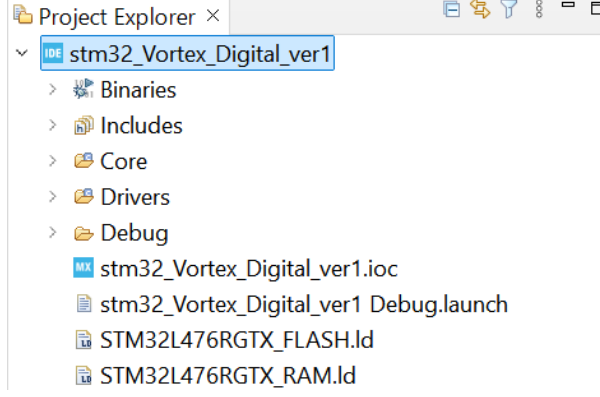

Figure 2: Screenshot of STM32CubeIDE after the user opens the project.
- **src/STM32:** We recommend that the user use **STM32CubeIDE** as the development environment. Move the extracted `src/STM32` folder into the workspace directory of STM32CubeIDE, then open the project using the "Import Projects from File System" function. Once the project is opened, the **Solution Explorer** in STM32CubeIDE should appear as shown in Figure 2.